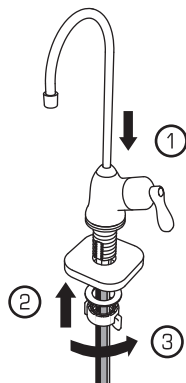

Fig. 21
3. **Holding** the rubber washer in place against the faucet body, lower the **eSpring** Faucet stem and tubes through the hole in the sink ledge or counter (1). With an assistant holding the faucet in place, **reach up** from below the counter and **slide** the metal washer then the wing nut onto the threaded faucet (2). **Position** the faucet in the desired orientation and **tighten** the metal washer and wing nut to secure the faucet in place (3) (Fig. 21).